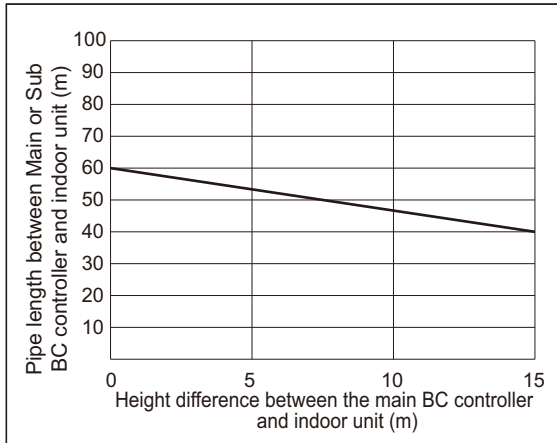

Fig. 2
- \*2. Details refer to Fig. 2.
- \*7. When the piping length or the vertical separation exceeds the limit specified in Fig. 2, connect a sub BC to the system. The restriction for a system with a sub BC connection is shown in Fig. 3. When a given system configuration falls within the shaded area in Fig. 3, increase the size of the high-pressure pipe and the liquid pipe between the main BC and sub BC by one size. When using P/M32, P/M40, P/M50, P/M100, or P/M125 model of indoor units, increase the size of the liquid branch pipe between the sub BC and indoor unit by one size. When using indoor models P/M140 or larger, the restrictions shown in Fig. 2 cannot be exceeded.
\*7. When the piping length or the vertical separation exceeds the limit specified in Fig. 2, connect a sub BC to the system.
When using indoor models P/M140 or larger, the restrictions shown in Fig. 2 cannot be exceeded.